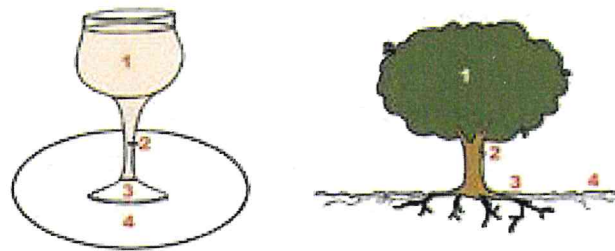

Figure 1. A tree looks like a wine glass on a dinner plate.
Tree roots are not like carrots. Roots spread out over a large area and are concentrated at the soil surface. A tree actually looks like a wine glass setting on a dinner plate (Figure 1). A wine glass represents (1) leaves and branches, (2) tree stem, and (3) the structural root plate. A large dinner plate (4) represents the transport and feeder roots that spread out farther than the branches.